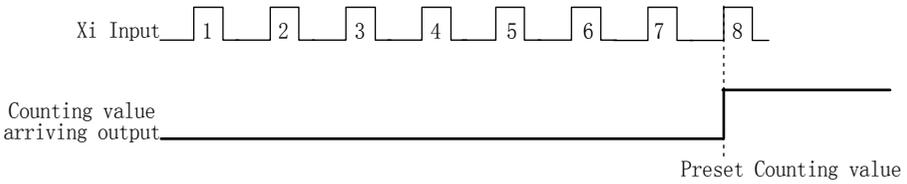

Fig. 5-3-12 Count value arriving
- ◆ If the counting value is bigger than the value defined by P3.24, the output of terminal is valid, as shown in Fig. 5-3-12.